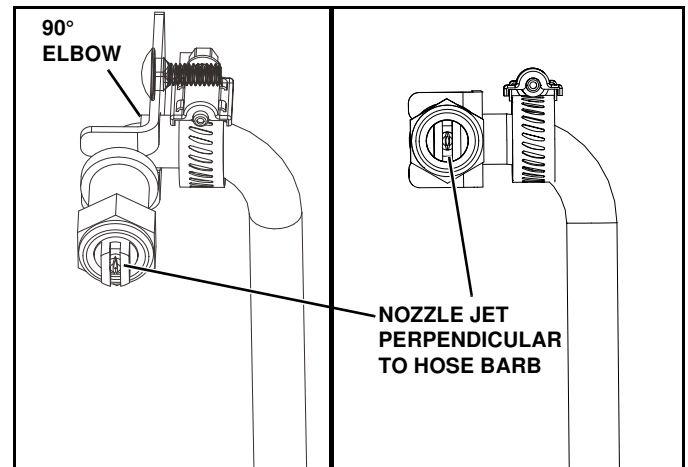

Figure 1-13
11. Rotate the nozzle jet so it is perpendicular to the hose barb of the nozzle body. (See Figure 1-13)